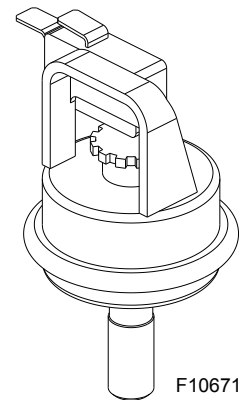
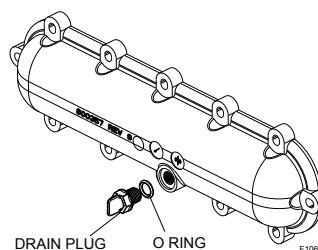

Figure 62. Water Pressure Switch
Figure 63. Return Header Drain Plug, Polymer ("P" Prefix Model)
2. Remove the ProTek Shield Assy (if attached). Remove the heat exchanger inspection panel on the side opposite water piping to gain access to the drain plug on the return header. Open drain plug on return header. See **Figure 62** and **Figure 63**.